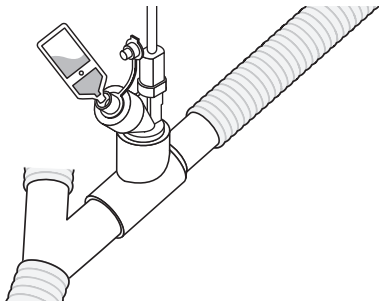

Figure 16. Filling the nebuliser with a pre-filled ampoule
2. Use a pre-filled ampoule or syringe to add medication into the filler port of the nebuliser (Figure 16).